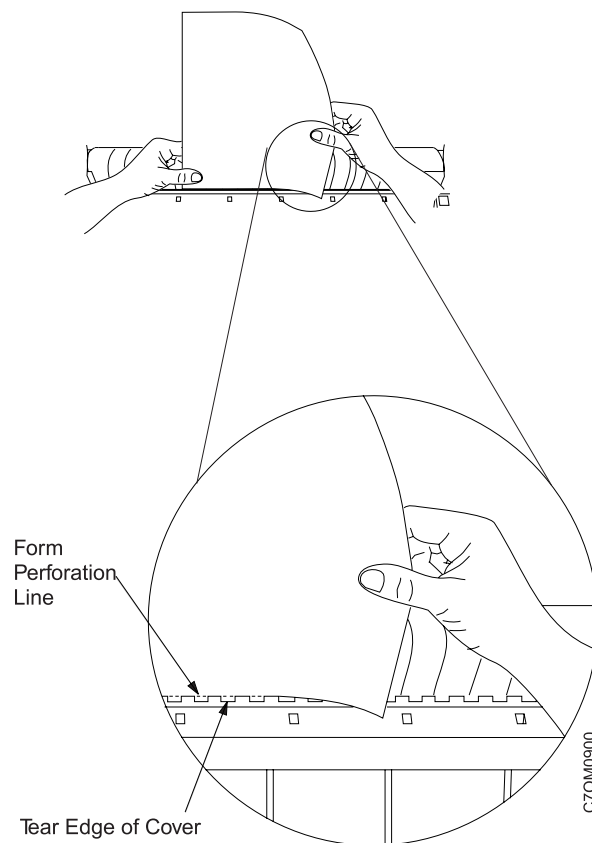

Figure 7. Tear-Off Position
7. Figure 7 shows the correct position of the perforation for a clean tear-off.